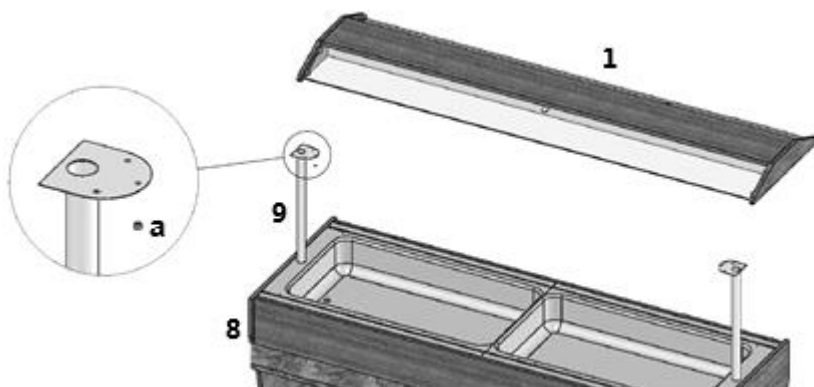

Fig. 3
1. Assemble the sneeze guard with integrated lighting on the appliance (Fig. 3).